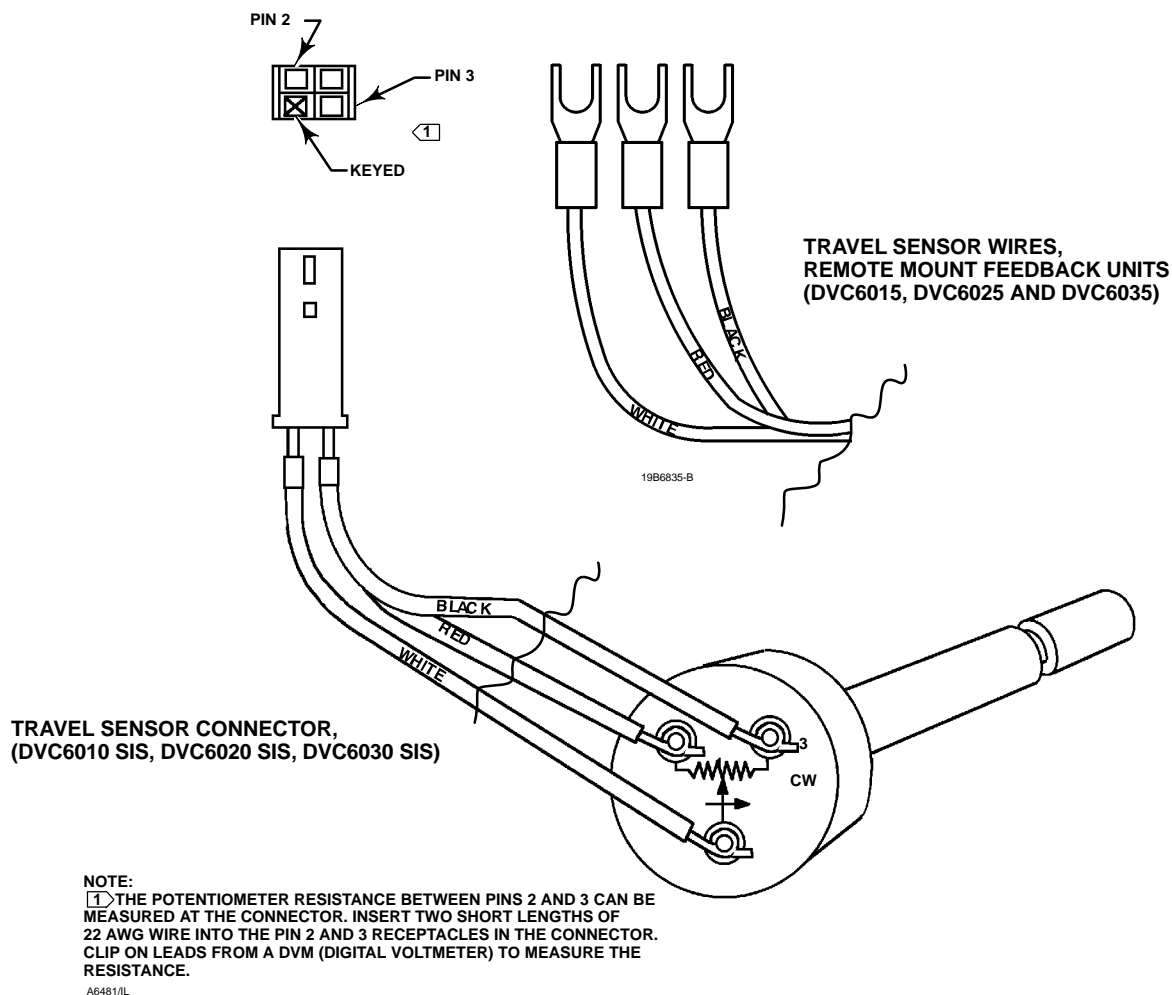

Figure 7-6. Potentiometer Resistance Measurement
5. Align the feedback arm (key 79) to the housing (key 1) by inserting the alignment pin (key 46) through the hole marked "A" on the feedback arm. Fully engage the alignment pin into the tapped hole in the side of the housing. Position the feedback arm so that the surface is flush with the end of the travel sensor shaft.
6. Connect a multimeter set to a resistance range of 50,000 ohms. Measure the resistance between pins 1 and 3 of the travel sensor connector. Refer to figure 7-6 for pin location. The resistance should be between 40,000 and 50,000 ohms.
8. Re-range the multimeter to a resistance of 3000 ohms between pins 2 and 3 of the travel sensor connector. Refer to figure 7-6 for pin location.
7. Re-range the multimeter to a resistance of 7000 ohms between pins 2 and 3 of the travel sensor connector. Refer to figure 7-6 for pin location.
8. Hold the arm assembly (key 91) in a fixed position so that the arm is parallel to the housing back plane and pointing toward the terminal box. Position the arm assembly so that the outer surface is flush with the end of the travel sensor shaft.
5. Connect a multimeter set to a resistance range of 50,000 ohms. Measure the resistance between pins 1 and 3 of the travel sensor connector. Refer to figure 7-6 for pin location. The resistance should be between 40,000 and 50,000 ohms.
10. While observing the resistance, tighten the screw (key 80) to secure the feedback arm to the travel sensor shaft. Be sure the resistance reading remains within the range listed in step 6, ± 100 ohms. Paint the screw to discourage tampering with the connection.
12. Apply anti-seize (key 64) to the pin portion of the arm assembly (key 91).
13. Position the mounting bracket over the back of the digital valve controller. Push the feedback arm assembly (key 84) toward the housing and engage the pin of the arm assembly into the slot in the feedback arm.
14. Install the mounting bracket (key 74).
6. Align the feedback arm (key 79) to the housing (key 1) by inserting the alignment pin (key 46) through the hole marked "A" on the feedback arm. Fully engage the alignment pin into the tapped hole in the housing. Position the feedback arm so that the outer surface is flush with the end of the travel sensor shaft.
7. Connect a multimeter set to a resistance range of 50,000 ohms. Measure the resistance between pins 1 and 3 of the travel sensor connector. Refer to figure 7-6 for pin location. The resistance should be between 40,000 and 50,000 ohms.
9. Re-range the multimeter to a resistance of 3000 ohms between pins 2 and 3 of the travel sensor connector. Refer to figure 7-6 for pin location.